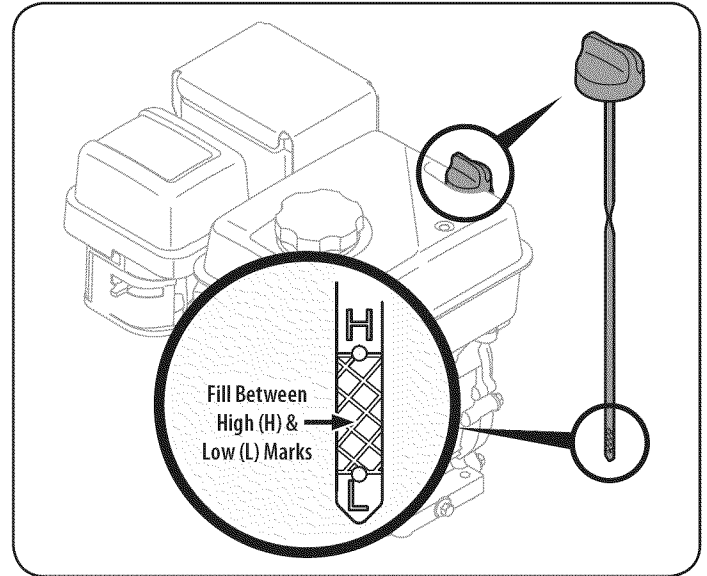

Figure 23
2. Remove the oil fill dipstick. See Figure 23.